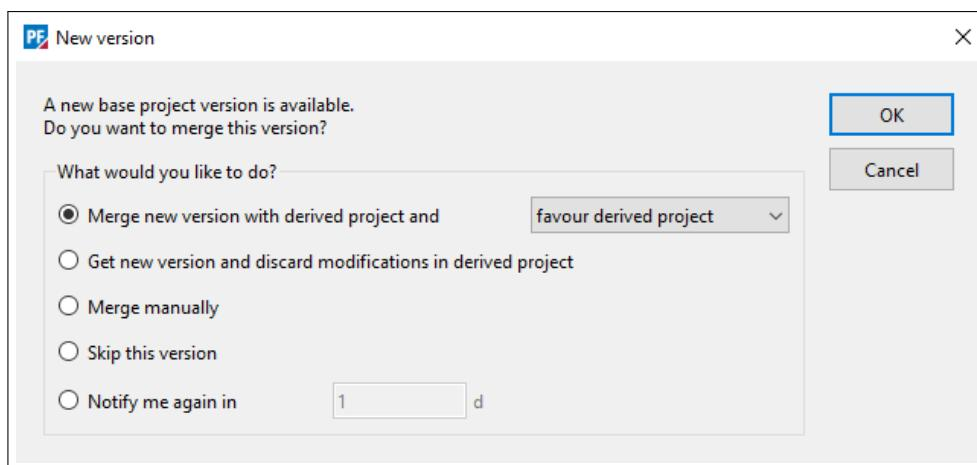

Figure 21.5.1: New version available dialog
When a derived project is activated after a new version of the *Base* project has been created (provided that the flag *Notify users of derived projects* was checked when the version was created and that the derived project option *Disable notification at activation* is unchecked), then the user will be presented with the dialog shown in Figure 21.5.1.
**Note:** In a multi-user environment, updated versions of the *base* project can be released regularly and the user will often be presented with the new version notification in Figure 21.5.1. In many cases, the user will not want to apply the updated version because they will be in the middle of a project or other calculation and may not want to risk corrupting or changing their results. Therefore, the option *Notify me again in...* is the recommended choice because it will leave the user's project unchanged.